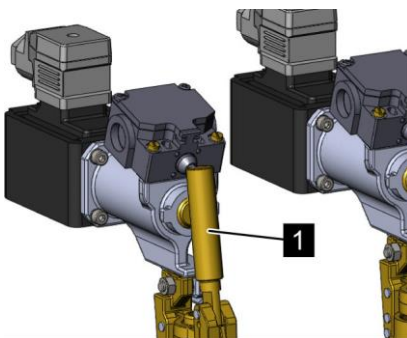

Fig. 162: Valve lever
13. ➤ Swing the valve lever (Fig. 162/1) of the pilot distributor upward again.